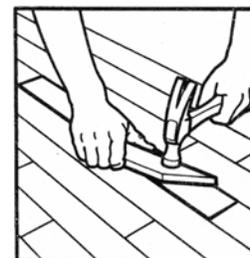

Figure 7-9
- H. Insert tongue, and then drive it into place, using a wood block and hammer or mallet. Figure 7-9.